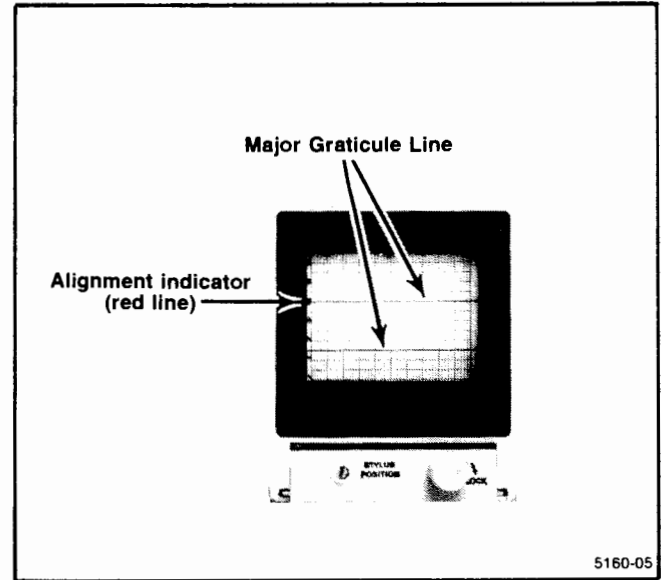

Fig. 4-6. Aligning Chart Paper.
- d. Pull the chart paper until one of the dark lines is aligned with the red reference line seen through a sprocket hole. See Figure 4-6. Place the chart recorder back in the instrument.